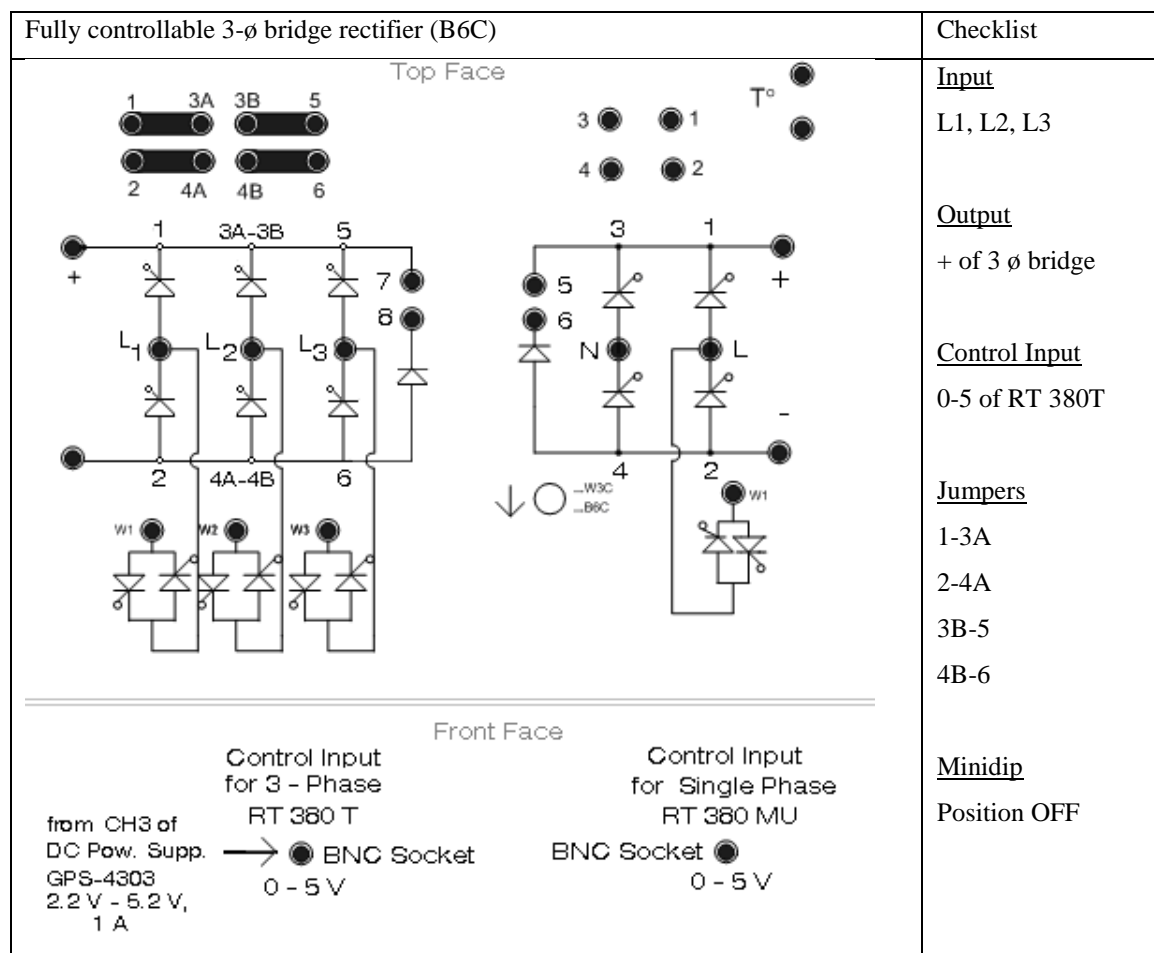

Fig. 1.1. Connection diagram for thyristor converter module
- Make sure that the switch connections of the thyristor teaching module are configured according to Fig.1.1. Note that the jumpers (between [1,3A] and [3B, 5]) and (between [2,4A] and [4B, 6]) are shorted to form up a three-phase full-bridge rectifier.